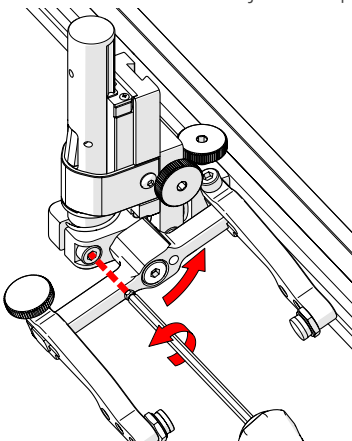

Fig. 72 - Loosen 3 mm screw
2. Using the supplied 3 mm hex driver loosen the transverse adjustment screw (Fig. 72) and rotate the yoke about the vertical shaft achieving the desired angle.